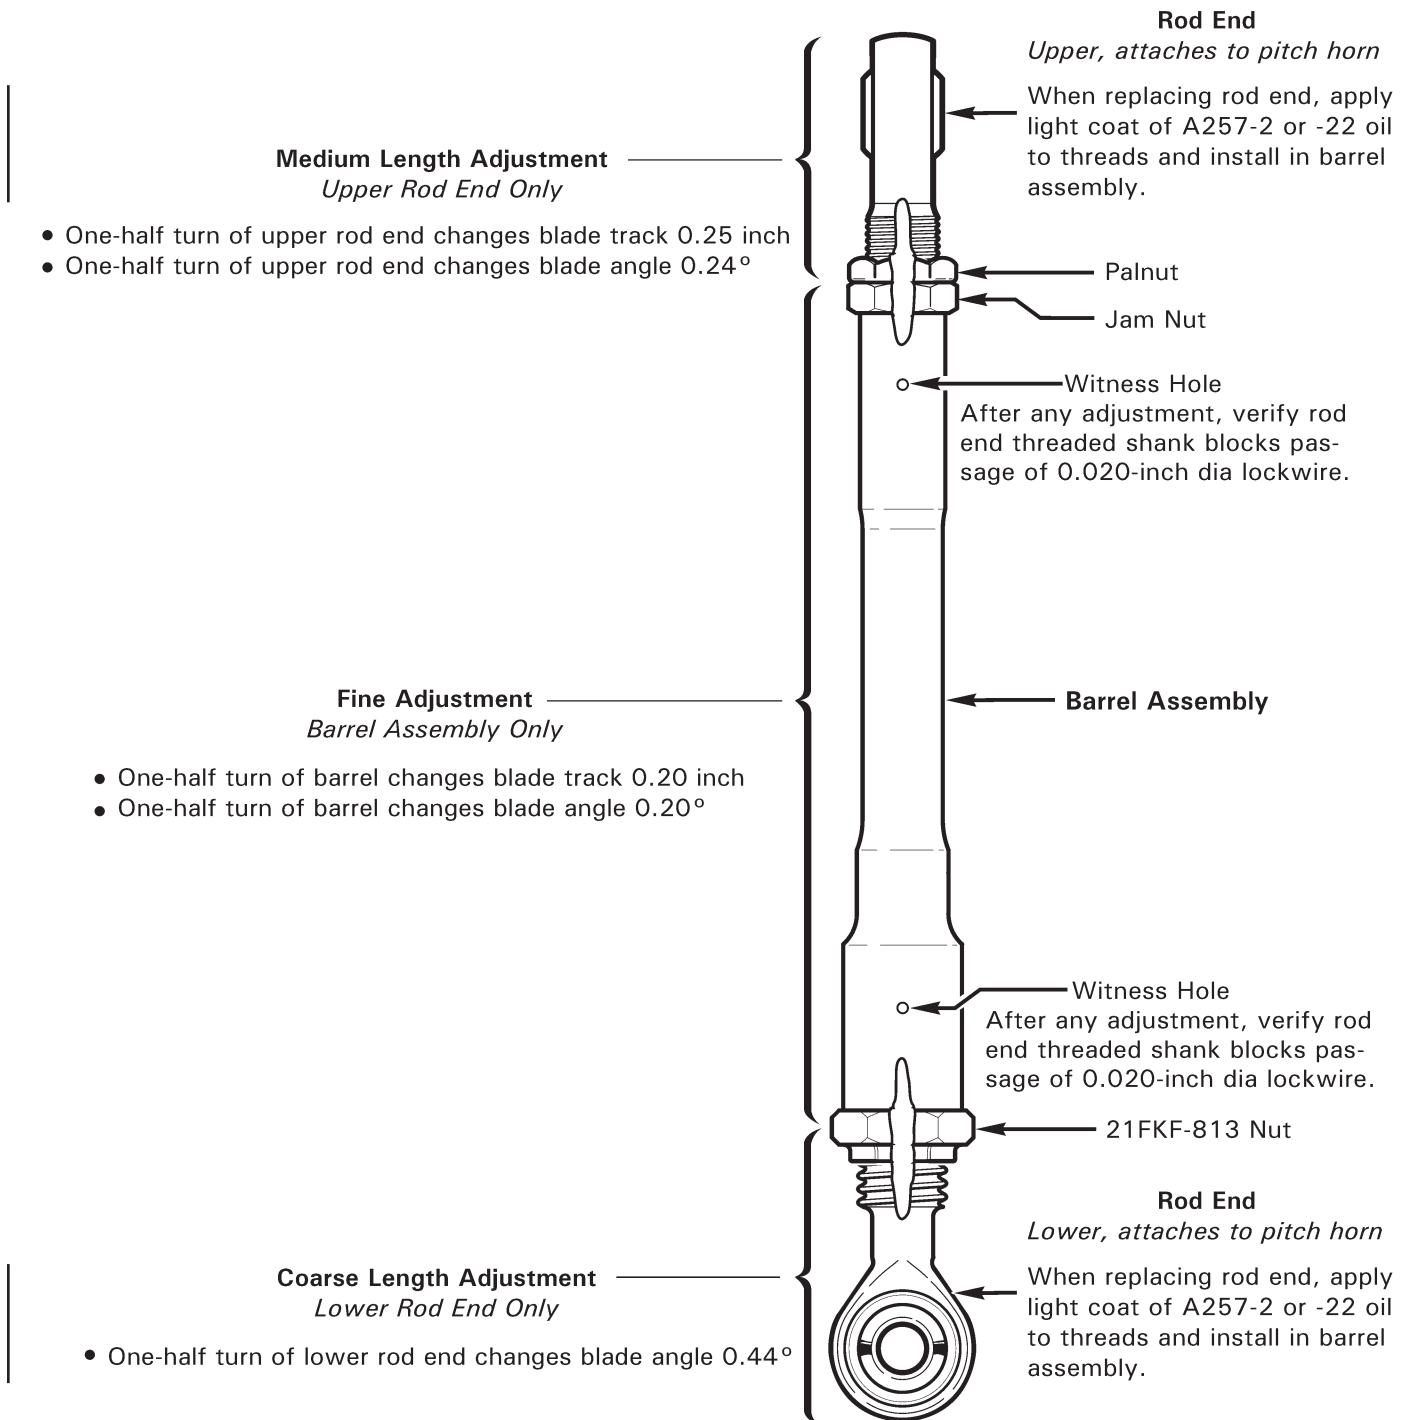

FIGURE 18-3A C258-5 MAIN ROTOR PITCH LINK
- i. Refer to Figure 18-3A. Using backup wrench on barrel assembly, loosen 21FKF-813 nut at lower rod end, and upper rod end palnut and jam nut.